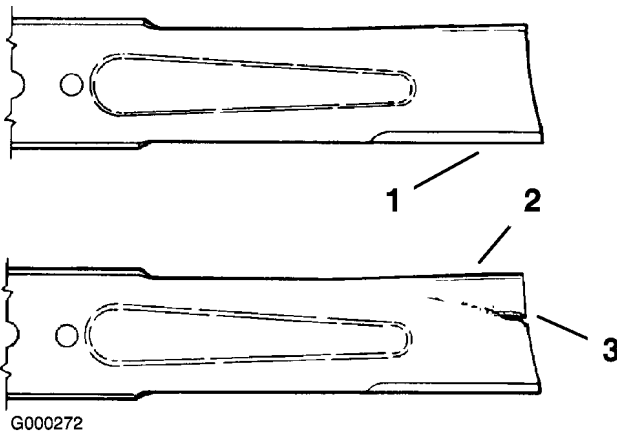

Figure 68
1. Inspect the cutting edges (Figure 68).
2. Inspect the blades, especially the curved area (Figure 68).
If you notice any damage, wear, or a slot forming in this area (Figure 68), immediately install a new blade.